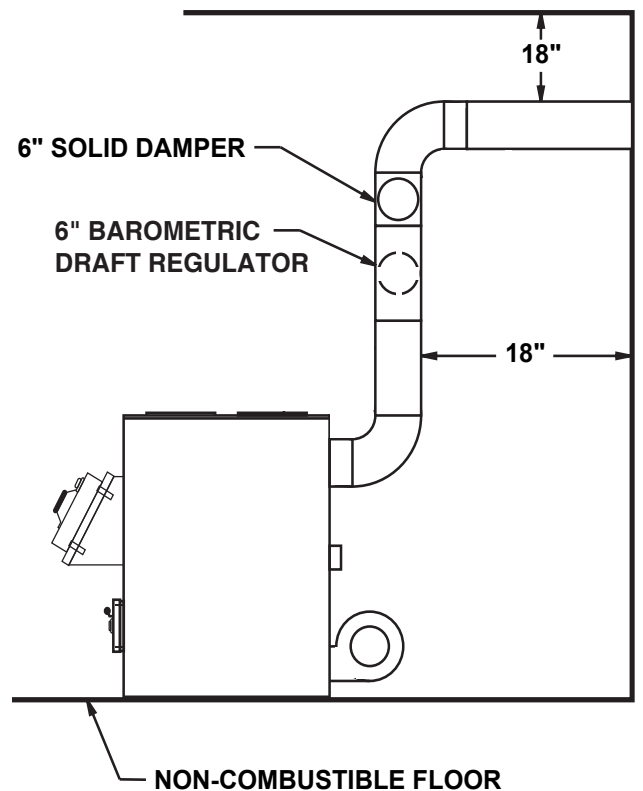

Figure 5
3. You must have at least 18 inches of clearance between any horizontal piping and the ceiling. (See Fig. 5)